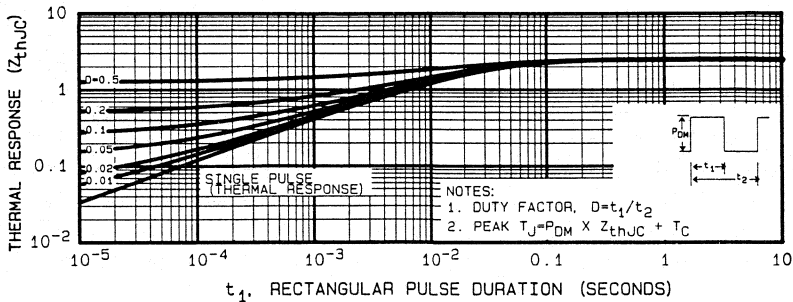

FIGURE 5. MAXIMUM EFFECTIVE TRANSIENT THERMAL IMPEDANCE, JUNCTION-TO-CASE vs PULSE DURATION
3. Repetitive rating: Pulse width limited by maximum junction temperature. See Transient Thermal Impedance Curve (Figure 5).
3. Repetitive Rating: Pulse width limited by max. junction temperature. See Transient Thermal Impedance Curve (Figure 5)